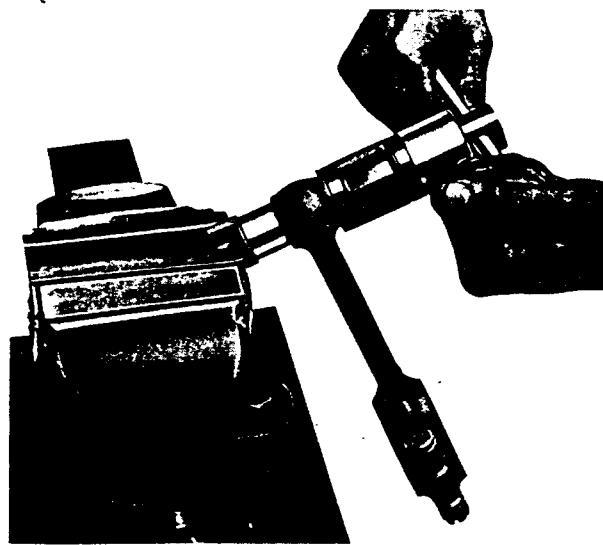

FIG. 141.
- Using Service Tool 20S FT.6201, with adaptors 9 and 10, mounted in a vice as shown in Fig. 141, remove old bush by pressing the replacement into position. The oil hole in the new bush must first be carefully aligned with the drilling feed in the shank of the connecting rod.